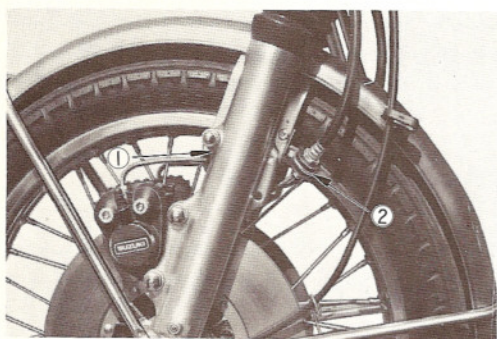

Fig. 4-2-7
- 1) Take off the left brake pipe cover ① and pipe guide ② as shown in Fig. 4-2-7.